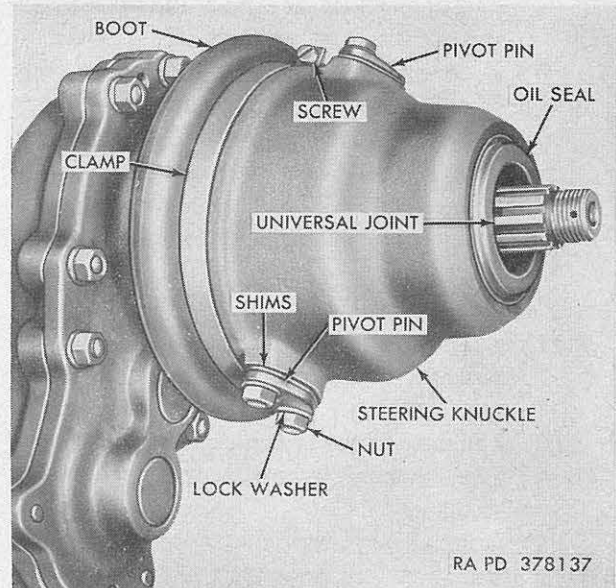
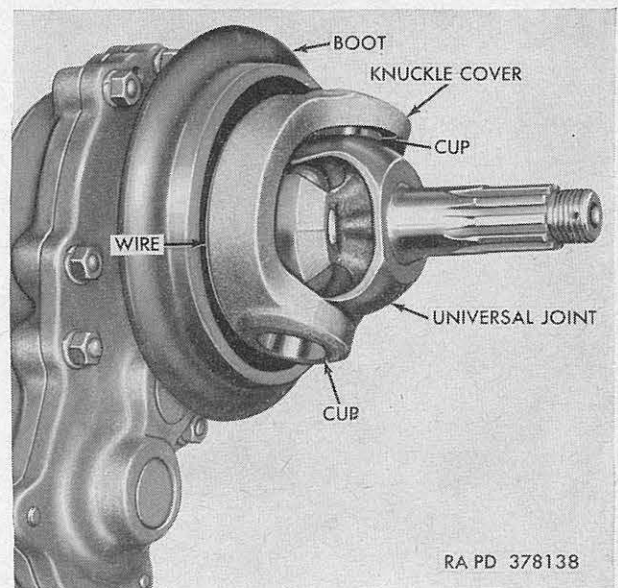
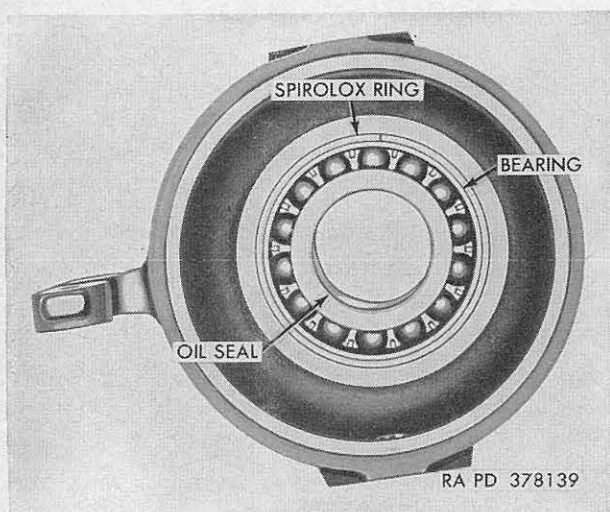

Figure 66. End of axle with hub removed from universal joint.
Figure 67. End of axle with steering knuckle removed showing knuckle cover and universal joint.
Figure 68. Inside of steering knuckle showing spirollox ring and oil seal.
- (5) Remove screw (fig. 66) and nut securing steering boot clamp and remove clamp from boot.
- (6) Remove four hex nuts (fig. 66) and lockwashers from studs securing steering pivot pins in steering knuckle. Pull pins out of steering knuckle being careful to keep each set of shims with the pins on which they were originally installed. Slip outer end of steering boot off inner end of knuckle and remove knuckle from steering knuckle cover, being careful not to lose bearing cones and rollers which may drop out when
knuckle is removed. Remove two bearing cones and rollers from cups in knuckle cover (fig. 67).
- (7) Pull universal joint (fig. 67) out of gear in axle housing and remove driven gear sleeve bearing (spacer) from between joint and gear.
- (8) If necessary to remove dust and moisture seal boot (fig. 67), cut wire se-
- (9) If necessary, press the two bearing cups (fig. 67) out of steering knuckle cover.
- (10) If necessary, remove spirollox retaining ring (fig. 68) securing bearing and oil seal (figs. 67 and 68) in steering knuckle and press bearing and seal out of knuckle.
- (1) If bearing (fig. 68) and oil seal were removed from steering knuckle, position new seal (felt end first) in bore of knuckle and press in with special tool 7010306 until seated against shoulder. Position bearing and press into bore until seated against oil seal. Secure seal and bearing with spirollox ring.
- (2) If two bearing cups (fig. 67) were removed from steering knuckle cover, press cups (small bore first) into cover until seated against shoulders.
- (3) If dust and moisture seal boot (fig. 67) was removed, work boot onto steering knuckle cover, large end first, position a length of locking wire around boot and twist ends to secure boot to cover.
- (4) Position driven gear sleeve bearing (spacer) against gear in axle housing and push universal joint through bearing (spacer) and into splines in gear.
- (5) Fill two bearing cones and rollers with automotive and artillery lubricating grease, GAA, and insert into bearing cups (fig. 67) in steering knuckle cover. Slide steering knuckle (with steering arm to rear) (fig. 66) onto universal joint being careful not to knock the cones and rollers out of the cups. If no new bearing parts are being used, position steering pivot pins in steering knuckle and bearing cones using the same shims between pins and knuckle as were removed at disassembly. Install four  $\frac{5}{16}$ -24NF hex nuts and lockwashers, tightened to a torque of 10 to 15 pound-feet, on studs. If new bearing parts are used the shims installed between the two pivot pins and the steering knuckle should be equal in thickness. Test adjustment as directed in (b) below. If adjustment of steering pivot pins (fig. 66) in steering knuckle is required proceed as follows:
- (6) Work outer end of steering boot (fig. 66) into annual groove on inner end of